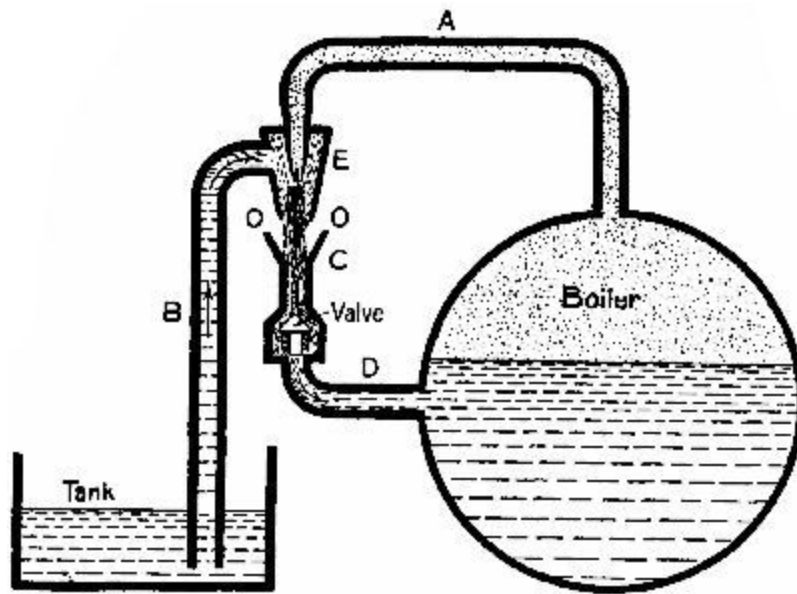

FIG. 15.—Diagram illustrating the principle of a steam-injector.
The water inside a boiler is kept at a proper level by (1) pumps or (2) injectors. The former are most commonly used on stationary and marine boilers. As their mechanism is much the same as that of ordinary force pumps, which will be described in a later chapter, we may pass at once to the *injector*, now almost universally used on locomotive, and sometimes on stationary boilers. At first sight the injector is a mechanical paradox, since it employs the steam from a boiler to blow water into the boiler. In Fig. 15 we have an illustration of the principle of an injector. Steam is led from the boiler through pipe A, which terminates in a nozzle surrounded by a cone, E, connected by the pipe B with the water tank. When steam is turned on it rushes with immense velocity from the nozzle, and creates a partial vacuum in cone E, which soon fills with water. On meeting the water the steam condenses, but not before it has imparted some of its *velocity* to the water, which thus gains sufficient momentum to force down the valve and find its way to the boiler. The overflow space O O between E and C allows steam and water to escape until the water has gathered the requisite momentum.